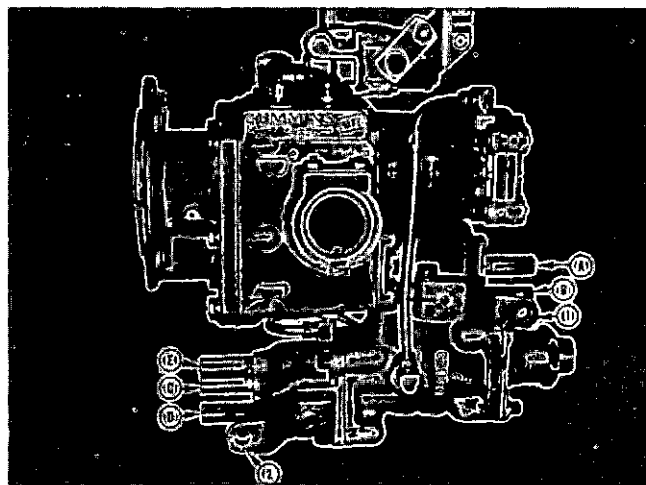

Fig. 14-2-7, F595. PT (type R) fuel pump with torque converter governor
The PT torque converter governor is fundamentally two mechanical variable-speed governors in series—one driven by engine, the other by converter. See Fig. 14-2-7.
2. Hold converter governor lever in clockwise position and turn in converter governor idle screw "C" Fig. 14-2-7 until spring is compressed. Turn adjusting screw out, then back in slowly to check adjustment.
2. Loosen screw "C" (Fig. 14-2-7) and back out approximately 3/4 inch [19.0500 mm].